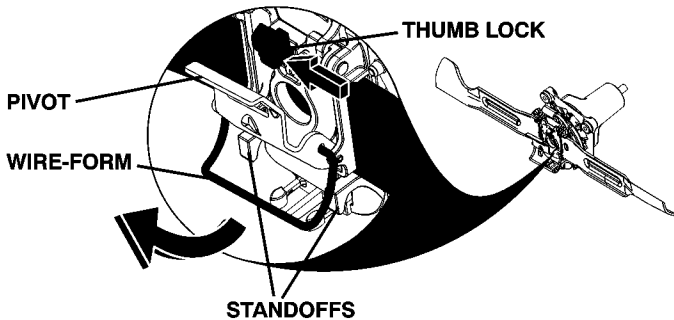

Fig. 29
- Slide thumb lock and release pivot to allow wire-form to swing free from standoffs. (See Fig. 29.)